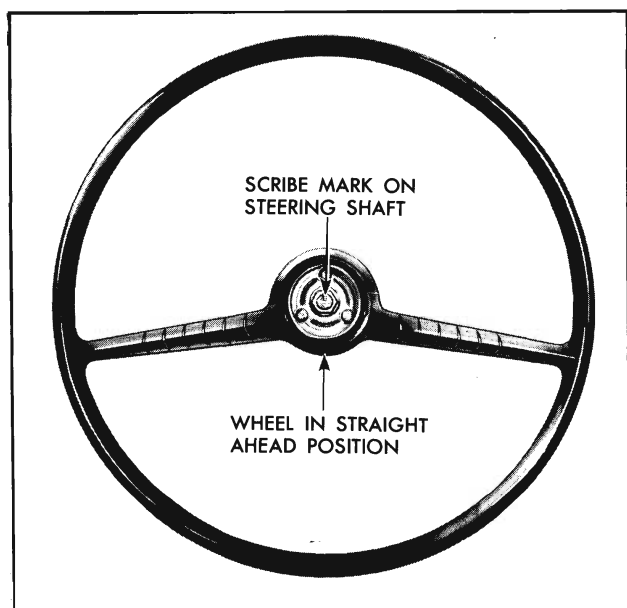

Fig. 9-6 Steering Wheel Installed
8. To replace, reverse the above procedure, making sure steering wheel is in straight ahead position (Fig. 9-6). Tighten steering wheel nut to $2\frac{1}{2}$ lb. ft. torque.
3. Reassemble steering connecting linkage to pitman arm. Set spokes of steering wheel in straight ahead position (mark on steering shaft up, Fig. 9-6). If road wheels are not straight ahead, adjust steering tie rods.